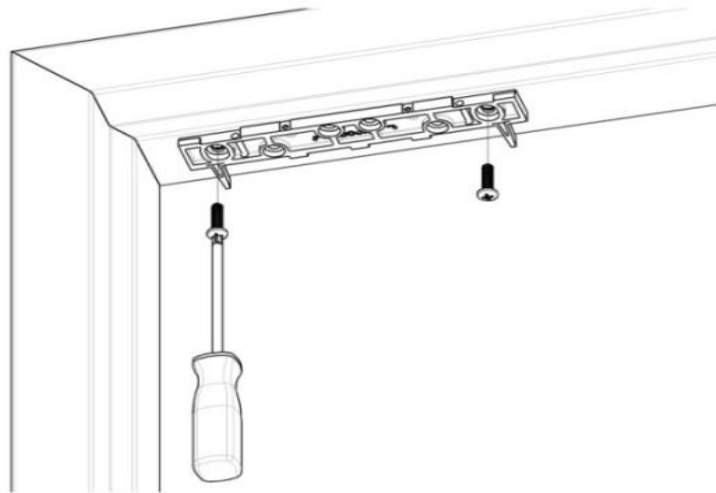

Figure 10. Installing the Bracket
5. Temporarily INSTALL the mounting bracket with template pins against the closed door using a Phillips screwdriver (see Figure 10, "Installing the Bracket").
- a. USE two (2) 1/4-20 X 1" Phillips Pan Head Screws.